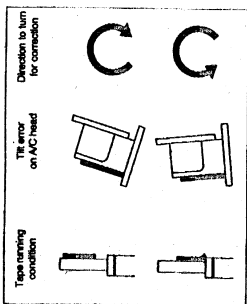

Fig. M14
- To adjust the tilt angle, move the tape until the lower edge of the tape is parallel with guide A1 (see Fig. M14); the tape must not be distorted by the lower edge.